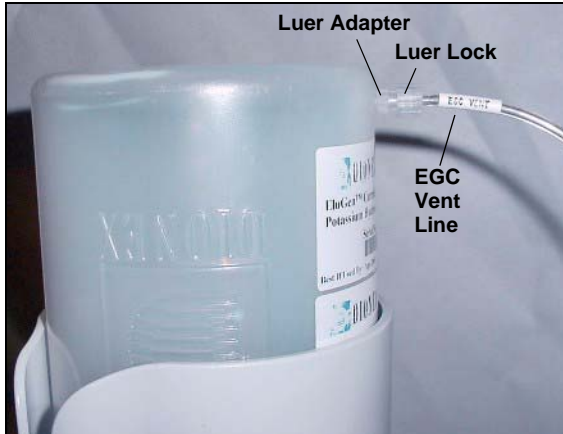

Figure 5-46. EluGen Cartridge Vent Line and Luer Fitting
4. Remove the EluGen cartridge VENT line (see Figure 5-46) from the EluGen cartridge by unscrewing the luer lock from the luer adapter.